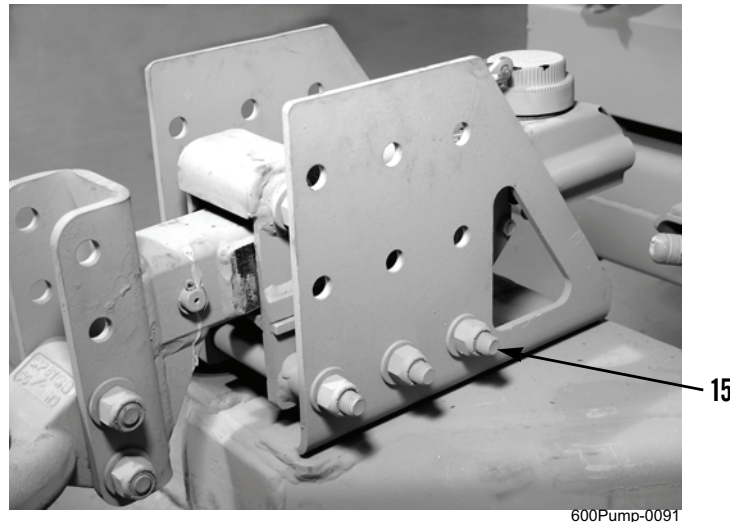

Figure 8. Hydraulic Brake Actuator Assembly.
14. Inspect for grooves. If present, measure depth of grooves on bottom three mounting capscrews (Figure 8, Item 15). Replace capscrews if grooves exceed 1/16 in. (1.59 mm) or if thread distortion is greater than 1/32 in. (0.79 mm).